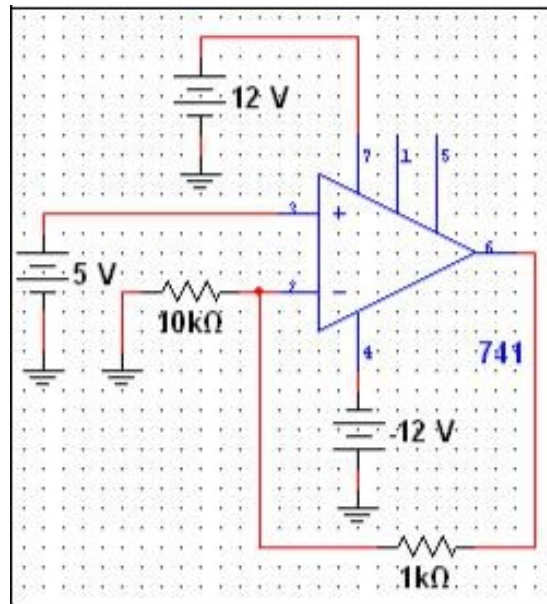

Figure 7.2: Exercise 1
- A non-inverting amplifier is shown in figure 7.2. The input is connected to the positive terminal. The output has the same polarity as the input, but is again multiplied by a gain that is determined by the feedback resistance and the resistance between the negative terminal and ground.